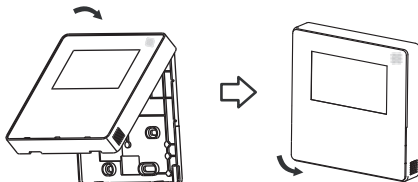

Fig 3-10
- After adjusting the upper case and then buckle the upper case; avoid clamping the wiring during installation. (Fig 3-10)